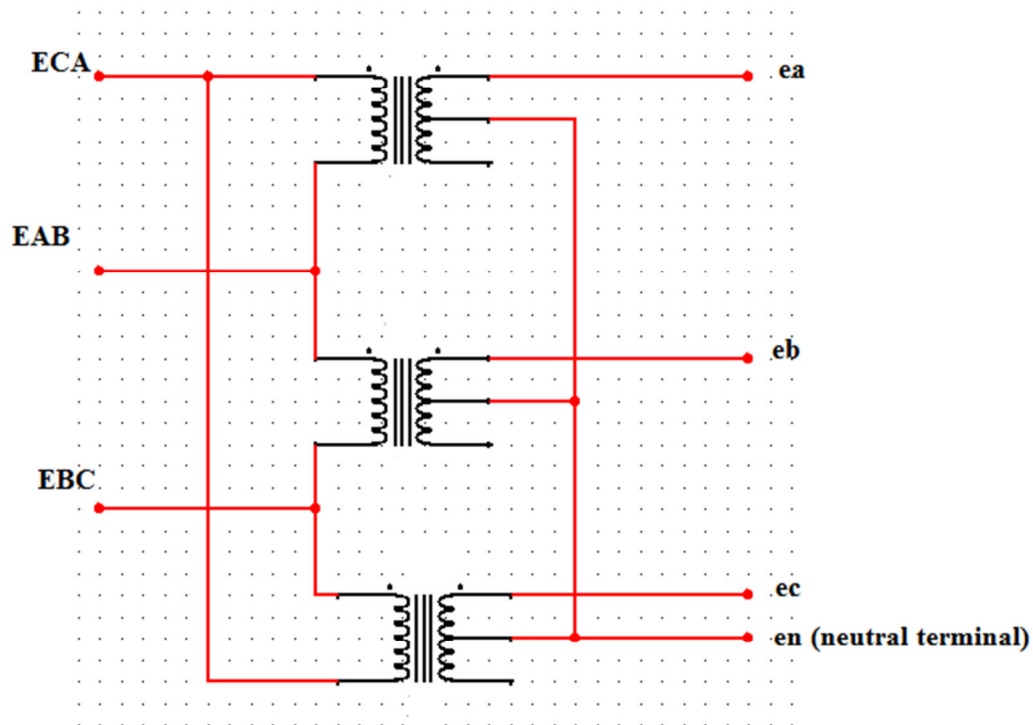

Figure 8.3: Delta to Wye Conversion
- Delta connection is available in the lab. Convert this delta into wye, by using transformer configuration shown in Figure 8.3. Step down transformers will be used in order to work at low voltage levels.